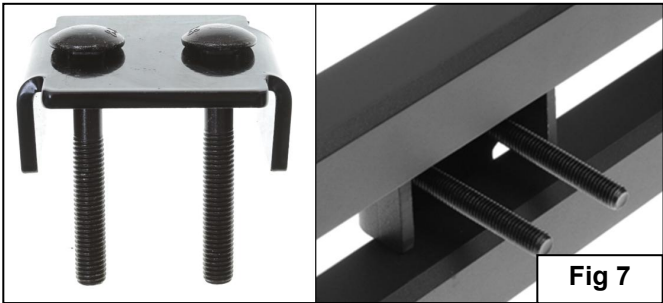
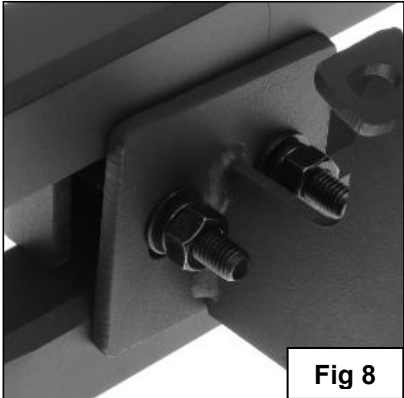

Fig 7
Fig 8
6. Select the Driver Side Bar. Slip (2) M10X1.5-75 Carriage Bolts into each 2-Hole Support Brackets, and insert the 2-Hole support bracket into the Driver Side Bar. **(Fig 7)**. Carefully position the Bar onto the (3) Mounting Brackets. IMPORTANT: Do not slide the Bar on the Brackets or damage to the finish may result. Attach the Driver Side Bar to the Mounting Brackets with (2) M10 Hex Nuts, (2) M10 lock washers and (2) M10 flat washers, **(Fig 8)**. Do not tighten hardware.